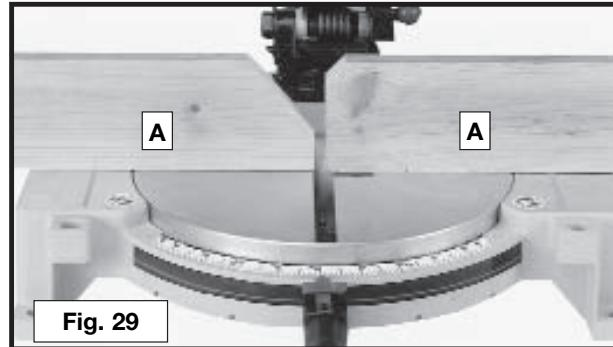

Fig. 29
Holes are provided in the fence to attach an auxiliary fence (A) Fig. 29. This auxiliary fence is constructed of straight wood approximately 1/2" thick by 3" high by 20" long.
**NOTE:** The auxiliary fence (A) is used **ONLY** with the saw blade in the 0° bevel position (90° to the table). When bevel cutting (blade tilted), remove the auxiliary fence.